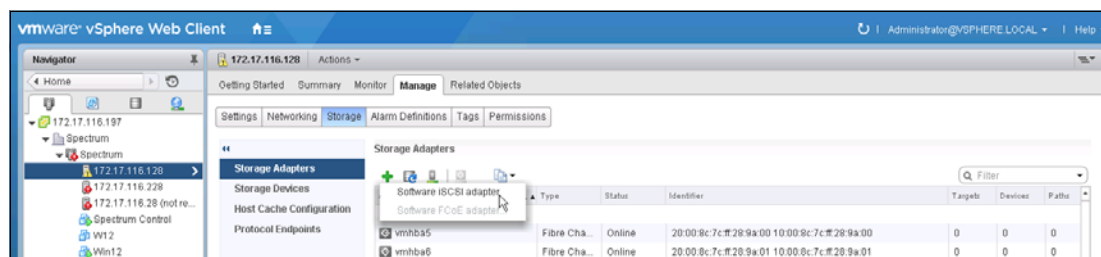

Figure 5-27 VMware: Add an iSCSI software adapter
- Click the plus sign (+) to add an iSCSI software adapter. See Figure 5-27.